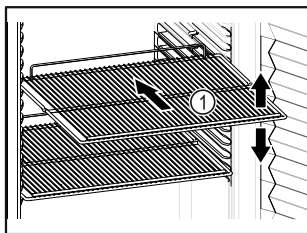

Fig. 75 Example illustration
- ☐ If there are adjustable shelves Fig. 75 (1), position them as required.